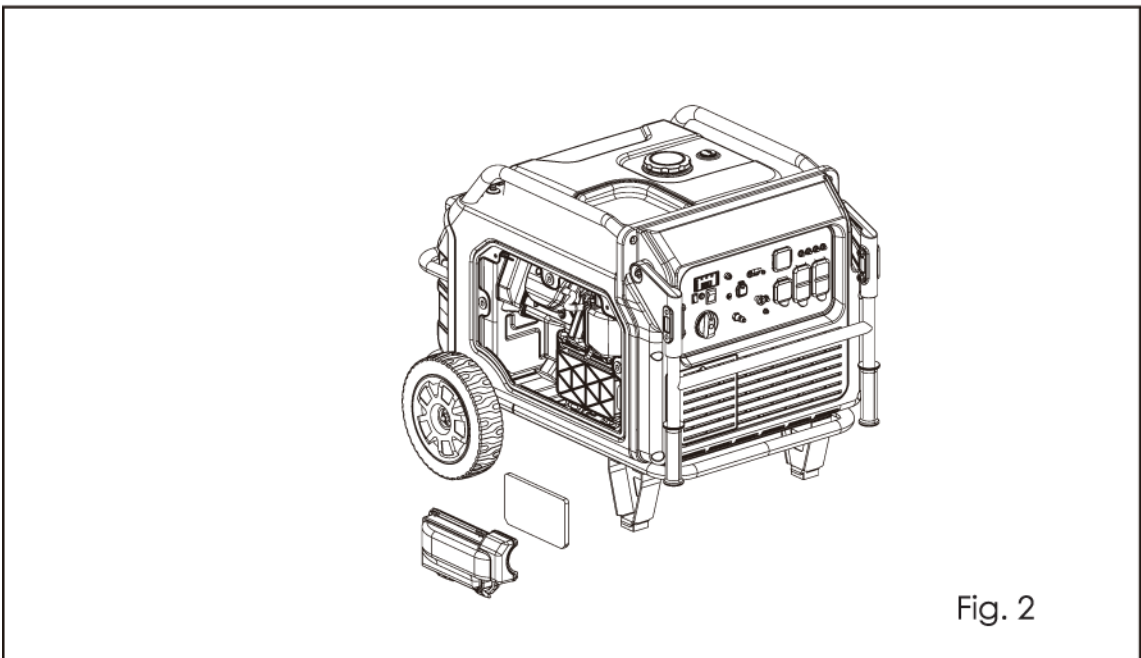

Fig. 2
- Remove the air filter element (Fig. 2). Inspect for dirt, debris or damage. Clean or replace as required.
2. Pull the choke knob (Fig. 2) fully out to choke a cold engine. If the engine is warm, push the knob in.
(Electric start) Push the starter pushbutton (Fig. 2) until the engine starts. If the engine does not start after five seconds, release the button and allow the start to cool for thirty seconds before trying once again to start the engine.